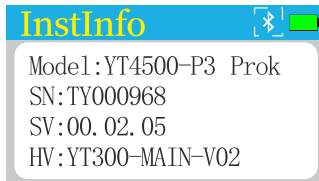

Figure 30 Instrument information
① Bluetooth will consume power even if it is not in use, so please turn off the Bluetooth when not in use.
② Some models do not have Bluetooth.
11. Instrument information: check "software version number", "hardware version number", "product model", "SN code", etc., as shown in Figure 30.